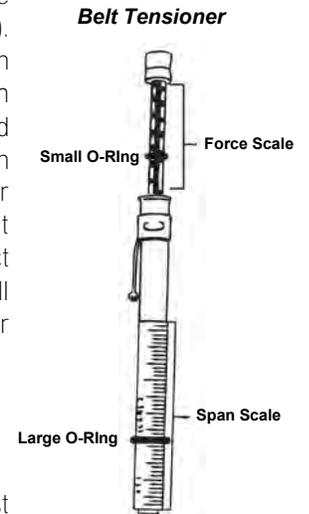
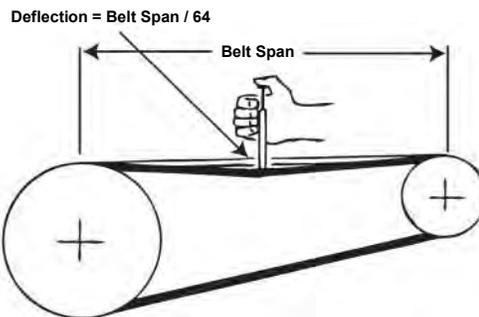

FIGURE 11
FIGURE 12
- To measure belt tension, use a belt tensiometer (Fig. 11). Determine actual deflection by depressing one belt with the belt tensiometer and measuring the deflection relative to the other belts or to belt line. Adjust the belt tension to the correct pounds force and tighten all set screws to the proper torque. (Fig. 12)